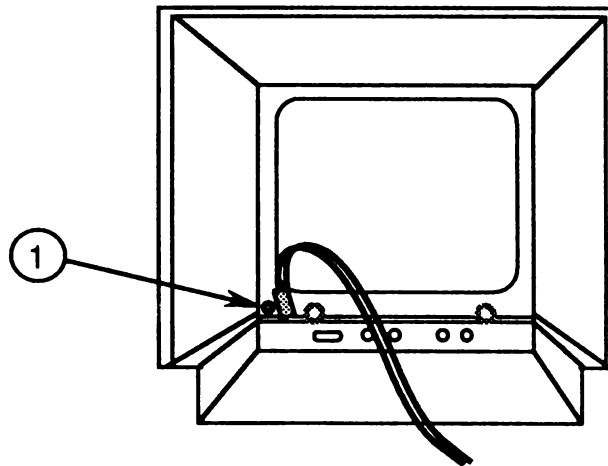

FIGURE 57
5. Remove the screw (Figure 57, #1) that secures the plastic bracket of the LED assembly to the front bezel.
1. Replace the screw (Figure 57, #1) that holds the LED assembly in place inside the front bezel.